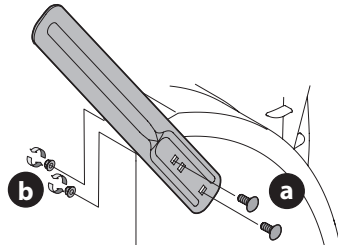

Figure 43
1. Remove carriage bolts (a) and lock nuts (b) shipped with each drift cutter (Figure 43).
2. Using the carriage bolts and lock nut removed in Step 1, secure the drift cutters to the auger housing as shown in Figure 43.